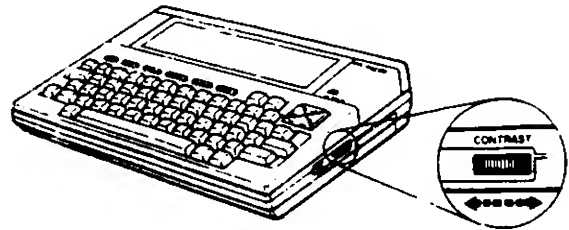

Figure 930-10 Contrast Adjustment
5. Adjust the contrast control (See Figure 930-10) on the right side of the PC-8300 so that the LCD display